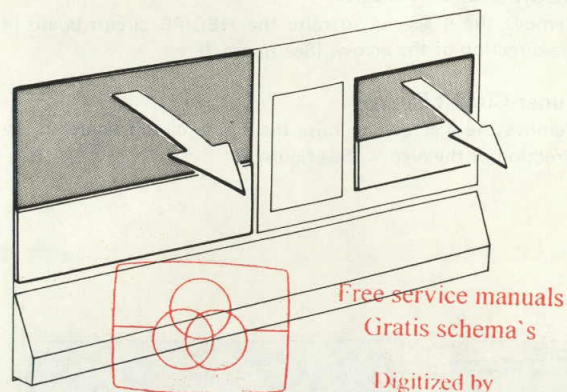

Fig. 4
- 3) Press the eject button to open the cassette lids of **C** and **M** (See figure 4)